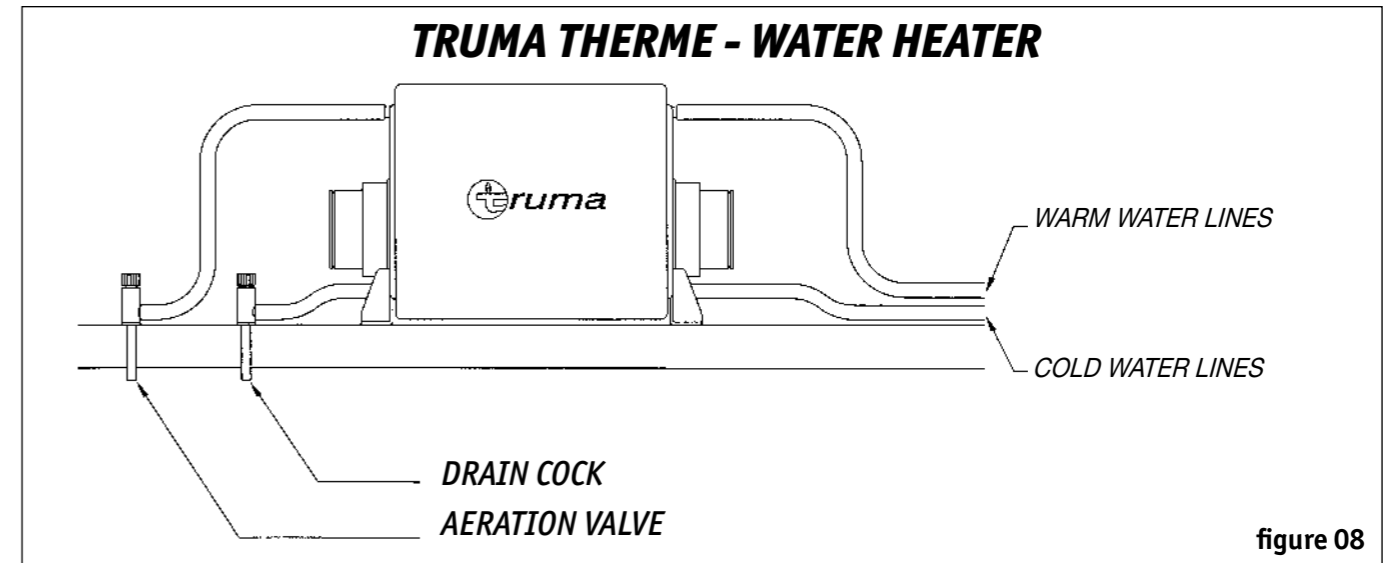

figure 08
4. Open the water heater drain cock and the aeration valve (see figure 08); check that the water is exiting the water heater